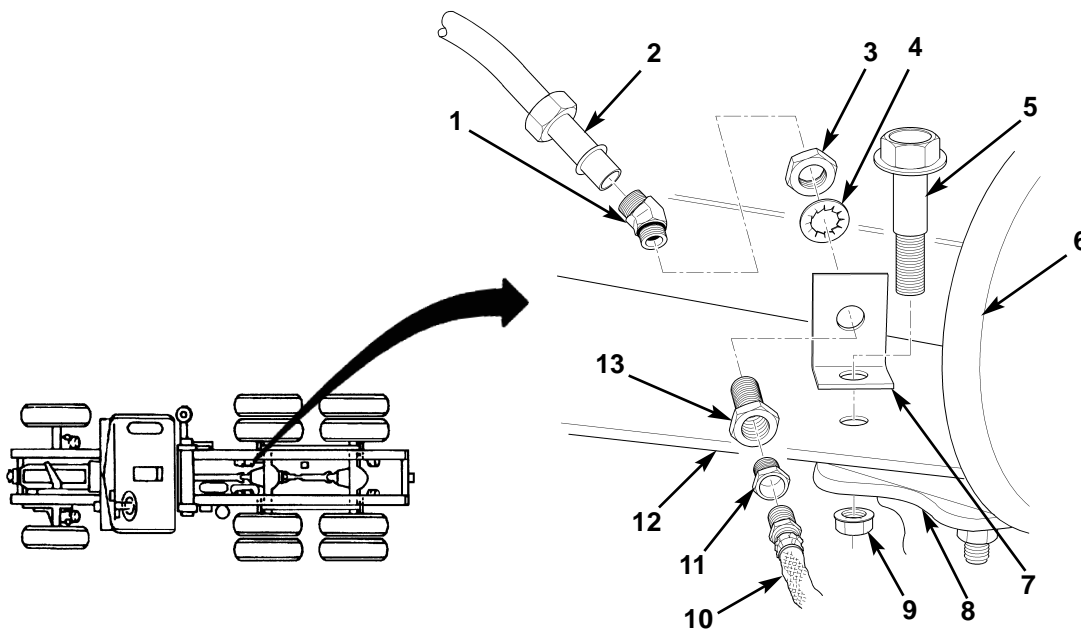

Figure 7. Left-Front Air Block.
1. Disconnect tube (figure 7, item 2) from elbow (figure 7, item 1), and remove hose assembly (figure 7, item 10) from reducer bushing (figure 7, item 11) on left-front bulkhead fitting mount (figure 7, item 7).
2. Remove elbow (figure 7, item 1) and reducer bushing (figure 7, item 11) from bulkhead fitting (figure 7, item 13).
3. Remove nut (figure 7, item 3), lockwasher (figure 7, item 4), and bulkhead fitting (figure 7, item 13) from left-front bulkhead fitting mount (figure 7, item 7). Discard lockwasher (figure 7, item 4).
4. Remove locknut (figure 7, item 9), bolt (figure 7, item 5), and left-front bulkhead fitting mount (figure 7, item 7) from spacer (figure 7, item 8) and crossmember (figure 7, item 12). Discard locknut (figure 7, item 9).
1. Install left-front bulkhead fitting mount (figure 7, item 7) on crossmember (figure 7, item 12) and spacer (figure 7, item 8) with bolt (figure 7, item 5) and new locknut (figure 7, item 9).
2. Install bulkhead fitting (figure 7, item 13) on left-front bulkhead fitting mount (figure 7, item 7) with new lockwasher (figure 7, item 4) and nut (figure 7, item 3).
3. Install elbow (figure 7, item 1) and reducer bushing (figure 7, item 11) on bulkhead fitting (figure 7, item 13).
4. Install hose assembly (figure 7, item 10) on reducer bushing (figure 7, item 11), and connect tube (figure 7, item 2) to elbow (figure 7, item 1).